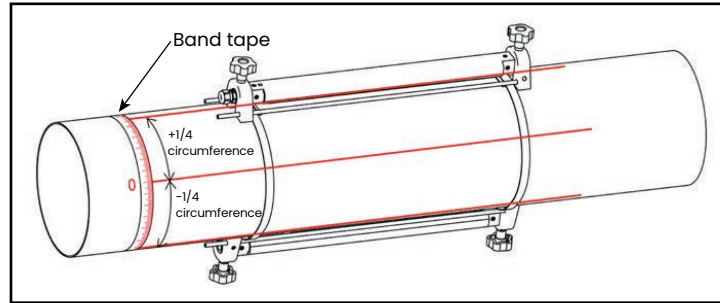

Figure 19: One Traverse Installation with Two Fixtures
3. Install two mounting straps on the pipe about 12 in. (30 cm) apart (see Figure 19 below).